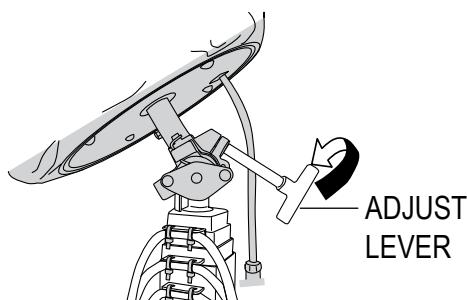

Figure 12. Tighten Adjust Lever
3. After adjustment, tighten the adjust lever (Figure 12).